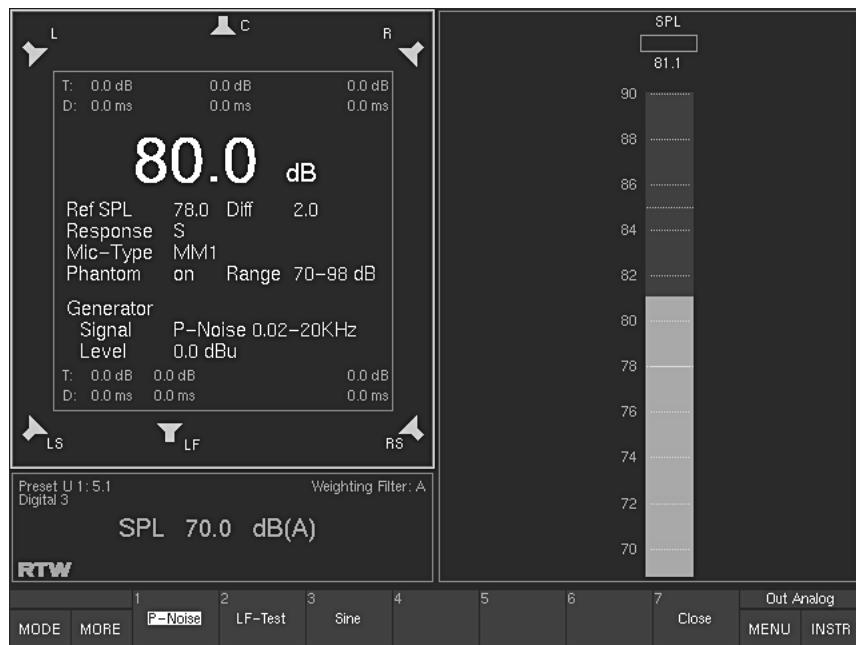

Fig. 5-35: Display after selecting the Signal Select function of the CAL instrument
(Button/key 1, see Fig. 5-35)
(Button/key 2, see Fig. 5-35)
(Button/key 3, see Fig. 5-35)
(Button/key 7, see Fig. 5-35)